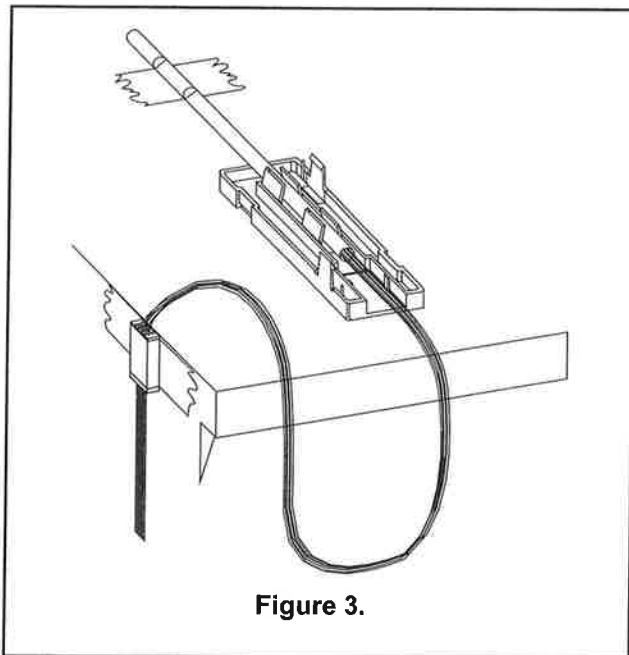

Figure 3.
- 7.1 Tape the terminal assembly in the vertical position 3 inches (75mm) to the side of the loose buffer tube (see figure 3).
- 7.4 Select the blue fiber and thread 6 inches (15 cm) into the blue tube of the terminal assembly (see figure 3).